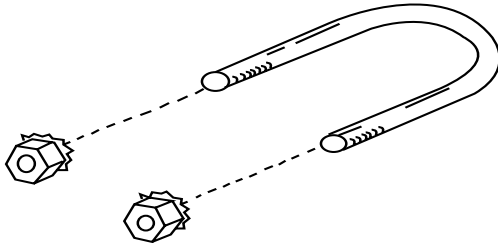

FIG. 4 — U-BOLT ASSEMBLY
1. The drive shaft of the MLx984 Actuator has a 1/4-28 UNF threaded hole to link with the valve stem. Slide the yoke over the valve bonnet (Fig. 4).
3. Care should be exercised when using tools on the valve stem during tightening (Fig. 4). DO NOT damage the threads or other parts of the stem.